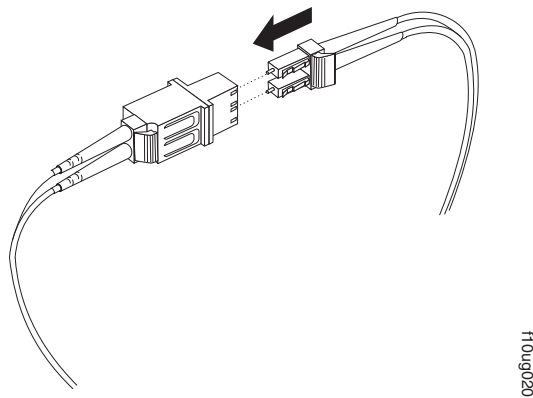

Figure 32. Connecting an LC-LC cable into the LC-SC cable adapter
4. Carefully insert the other end of the LC-LC cable into the LC connector end of the LC-SC cable adapter as shown in Figure 32 on page 59. Push in the